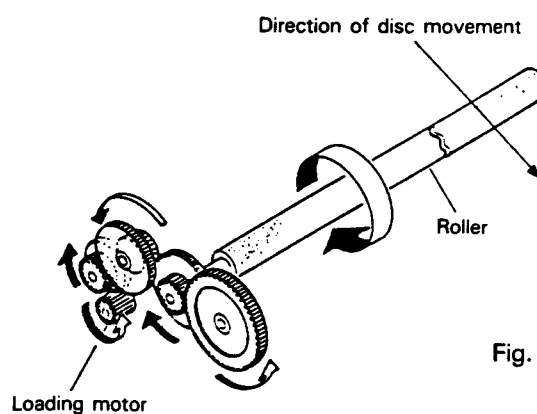

Fig. 11
3. When the loading motor rotates, the roller is turned and the disc is moved into the unit. (Fig. 11)